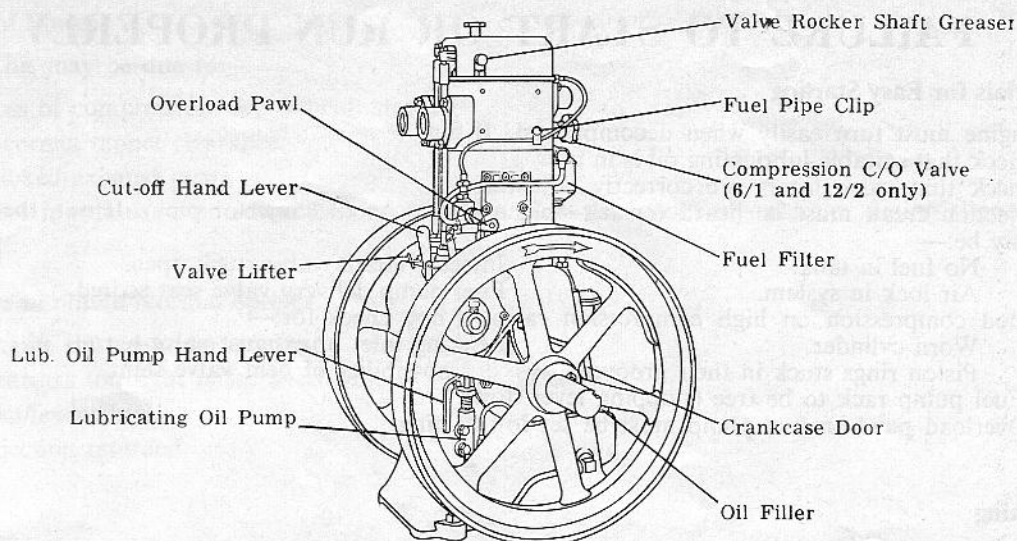

Fig. 4. Single Cylinder Engine
- (b) When engine is about to stop, engage valve lifter (see Fig. 4). Never stop engine by shutting off fuel supply or by lifting the exhaust valve.